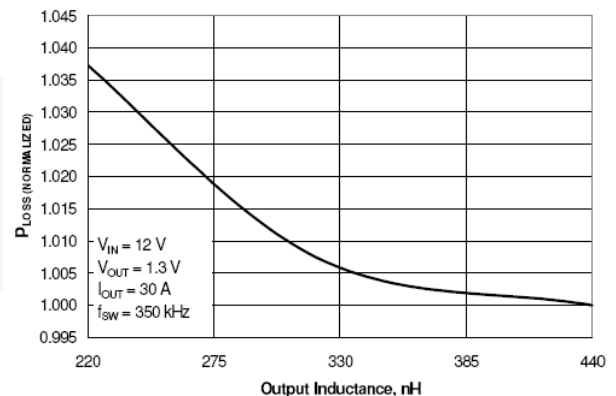

Figure 8. Normalized Module Ploss vs. Lout
- Ploss at 10 Vin, 5.5 Vcin, 2 Vout, 600 kHz and 320 nH. Note Figure 8: